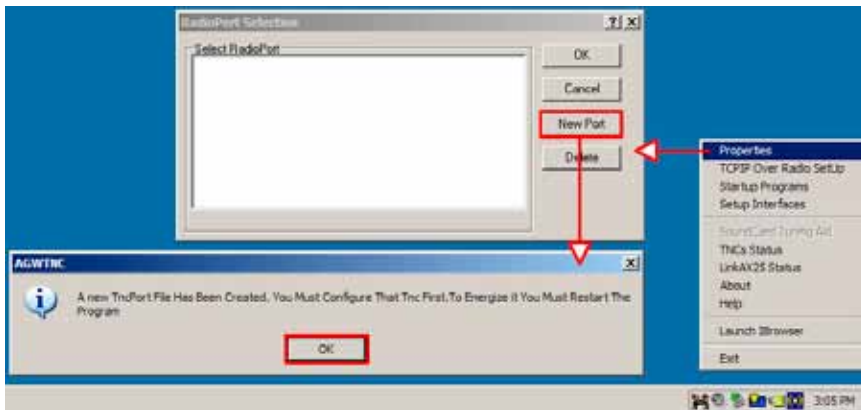

Fig 14 – Initializing a new port in AGW Packet Engine.
5. Refer to Figures 14 & 15 while performing the following steps: